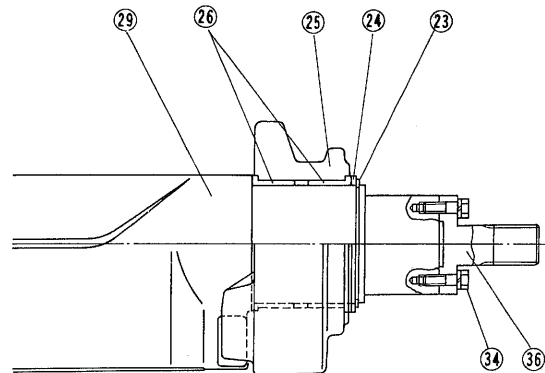

Fig. 92
- 2) Press bushing (26) into weight (25), and assemble weight (25), collar (24), snap ring (23) to vibrator shaft in this sequence. Furthermore, install flange (36) on vibrator shaft (29) and torque bolts (34) to 12 kg-m (SV91 & SV91D). (Fig. 92)